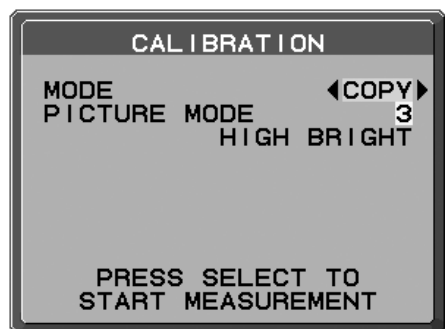

Figure C.4
6. Using "LEFT" or "RIGHT" of Display B, select COPY in the MODE selection (**Figure C.4**).